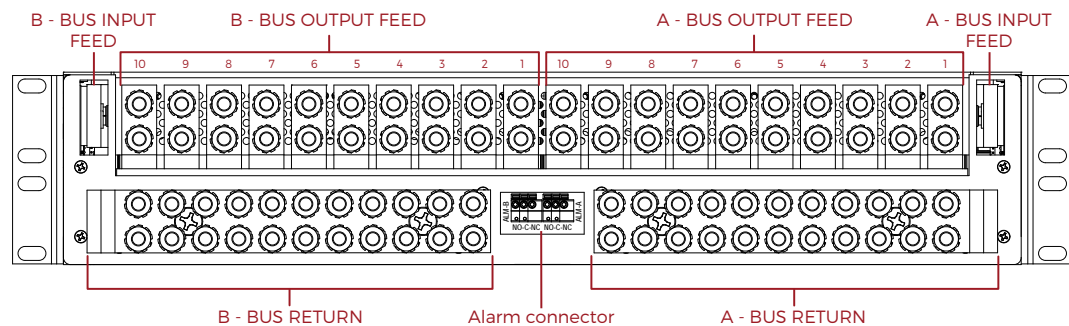

Figure 4. Back Panel View
9.1 Back View. Figure 4 shows the back of the DPP2U distribution panel. Inputs are at the left and right ends of the back panel. Side B outputs are at two rows of barrier terminal strips on the left side, and side A outputs are the same on the right side. At the center of the back panel are two spring clamp terminal blocks for the Form C relay contact outputs.
9.4 Output Connections. Output connections for A and B loads are shown in Figure 4. There are 10 sets of bus bar terminals for each side, A and B. The connections are numbered to correspond with the numbers of the front panel breakers. The upper strip connections are from the battery (FEED) through the breakers; the lower strip connections are the RETURNS. Side B is on the left and side A on the right when viewed from the rear.